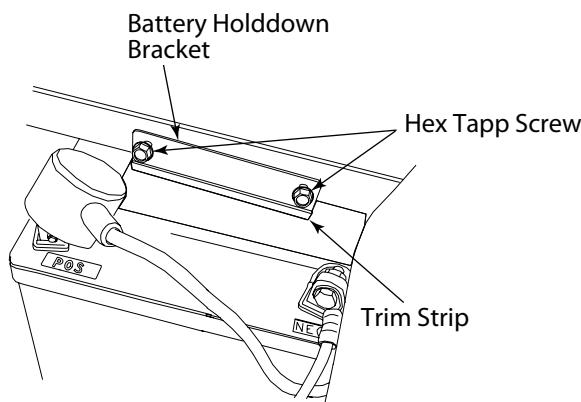

Figure 7-1
- Remove the two hex tapping screws from the battery holdown bracket and remove the bracket. Use care to avoid losing the trim strip from the bottom of the bracket. See Figure 7-1.